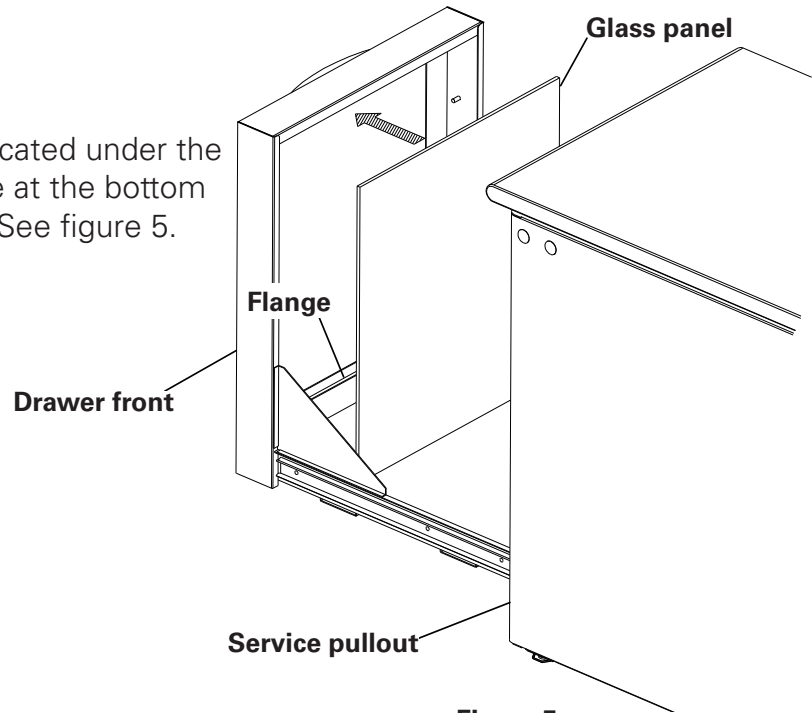

Figure 5
1. Carefully unpack the Glass Panel (located under the drawer) and position it on the flange at the bottom of the opening in the Drawer front. See figure 5.